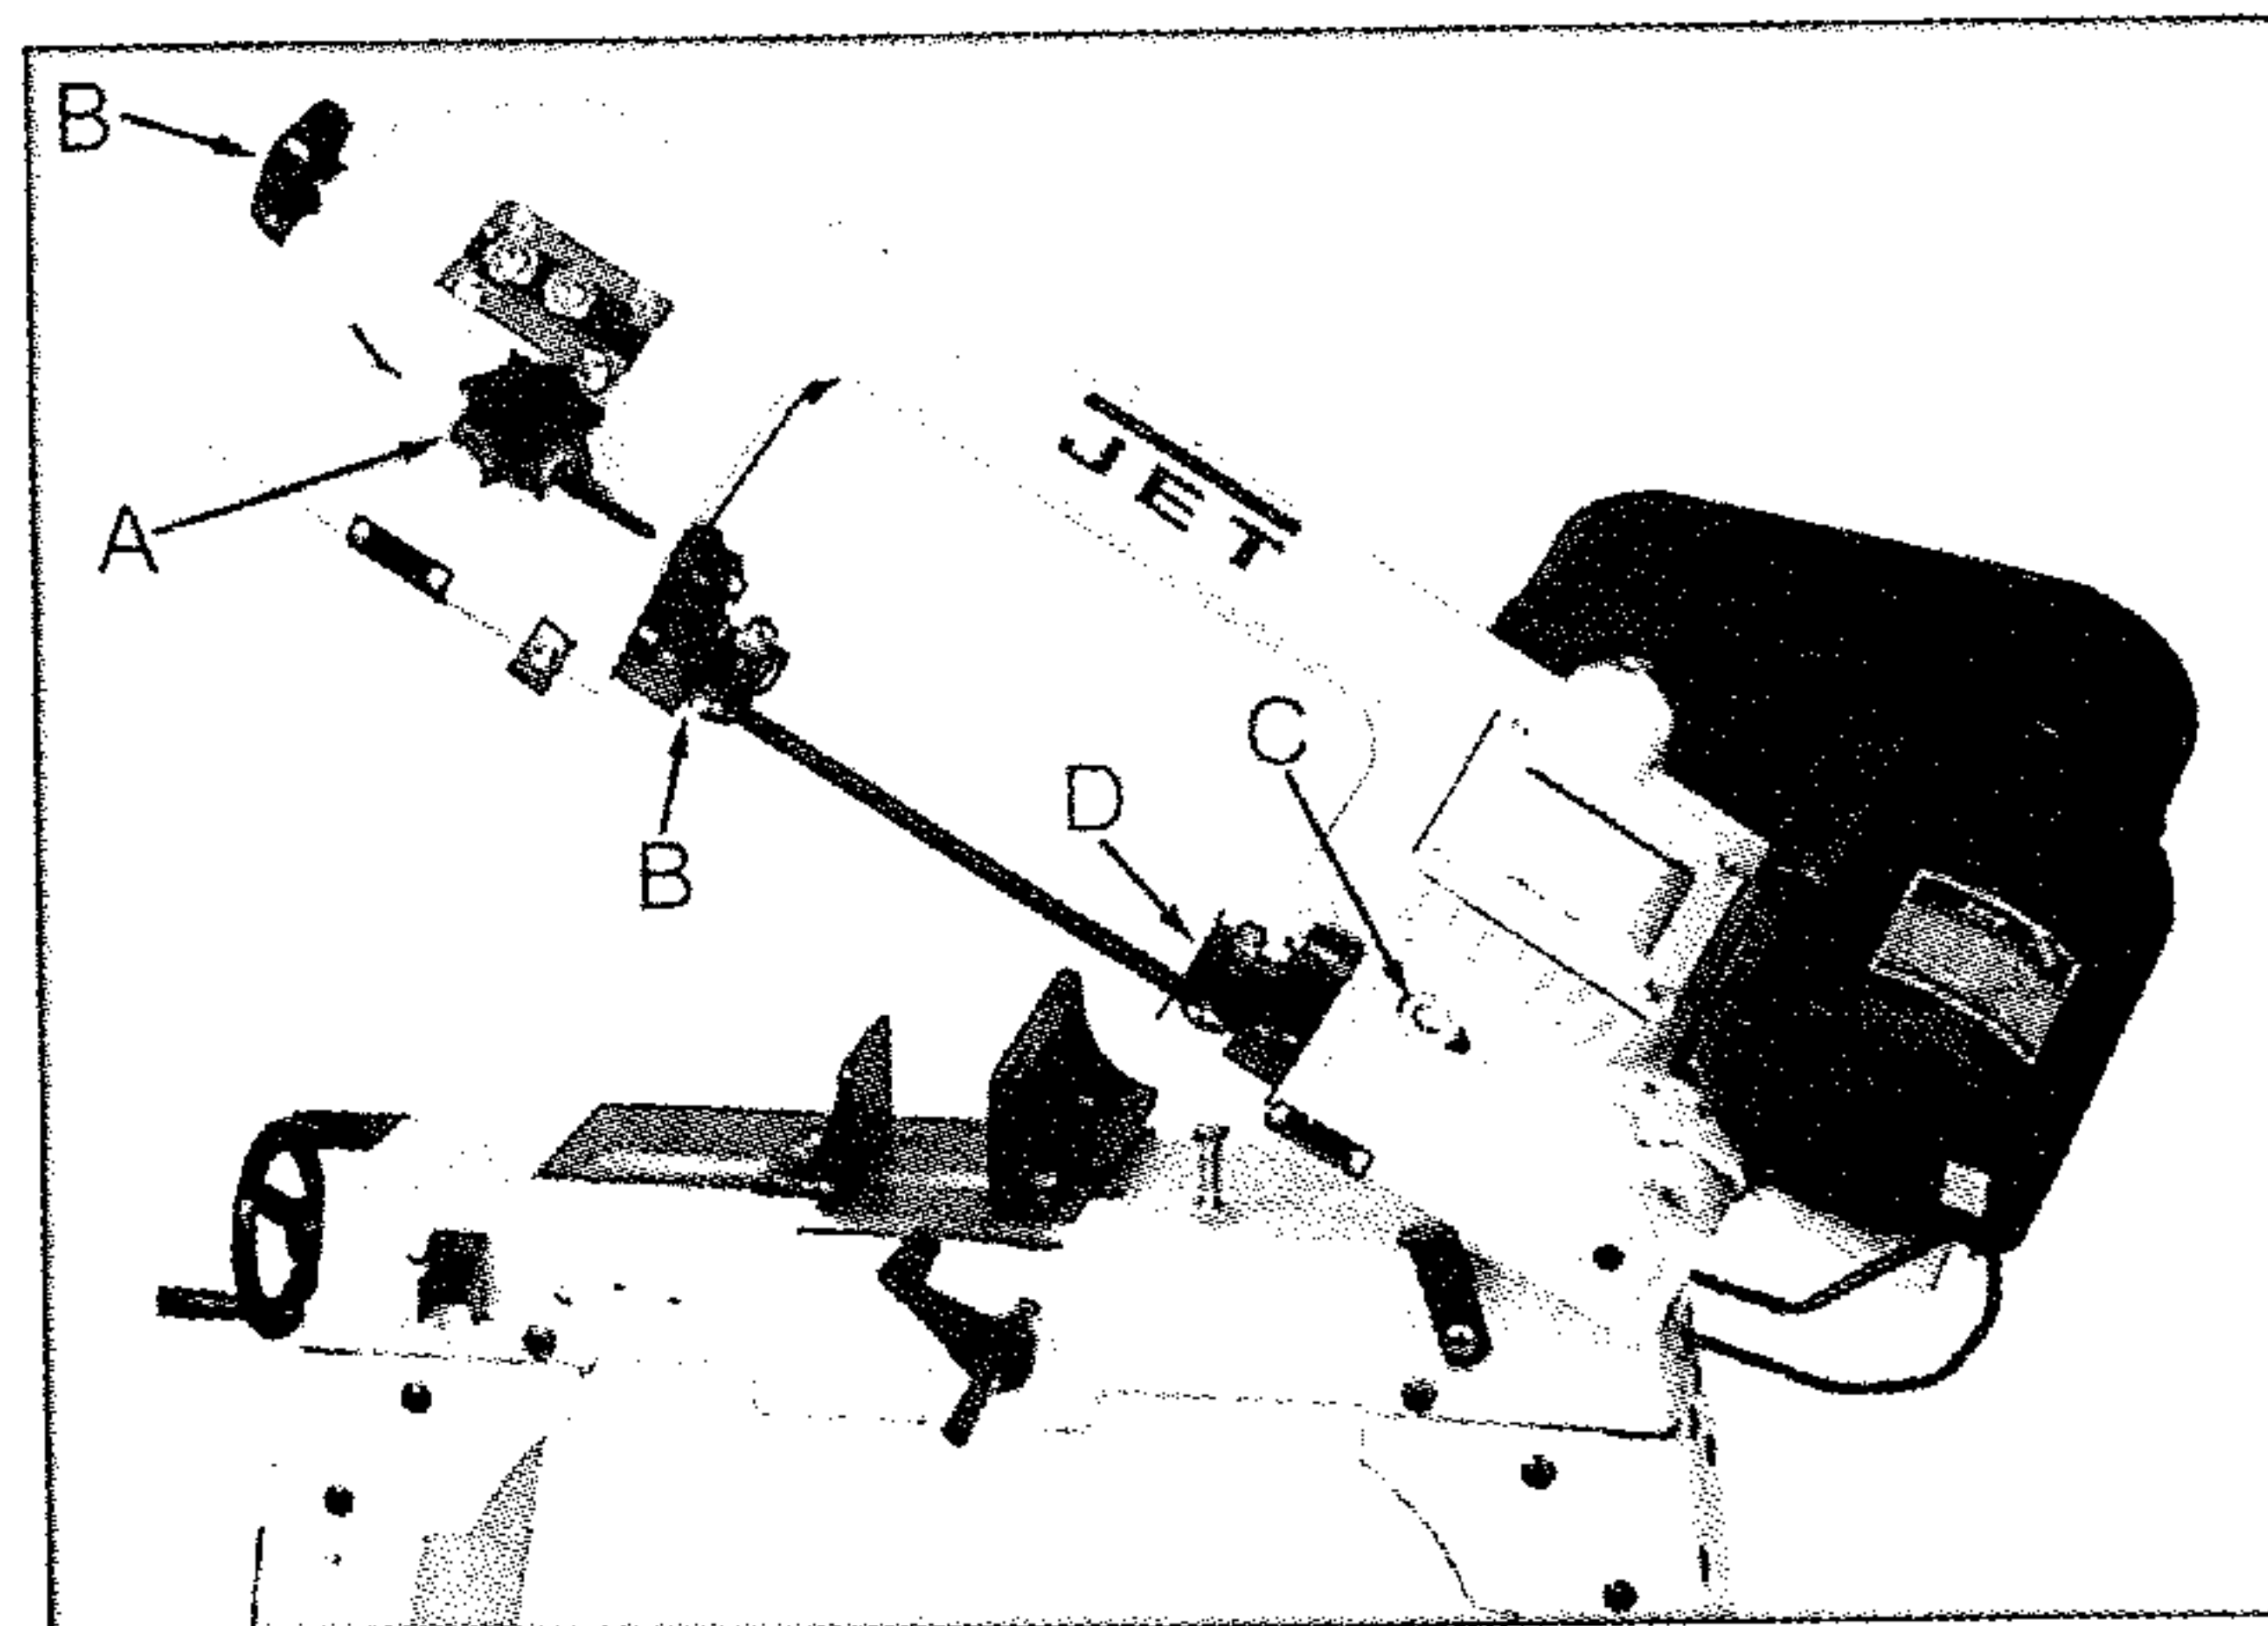

Fig. 12
4. Depress blade. Finger pressure should cause approximately .004" deflection. Turn blade tension knob (B, Fig. 12) until the proper tension is achieved. Re-position guides for cutting material.
2. Loosen knob (A, Fig. 12) and slide blade guide assembly (B, Fig. 12), as close as possible without interference to the material being cut. Tighten knob.
3. Loosen bolt (C, Fig. 12) and slide blade guide assembly (D, Fig. 12), as close as possible without interference to the material being cut. Tighten bolt
3. If the blade is next to the wheel flange, loosen the blade guide assembly lock knob and hex head bolt (A & C, Fig. 12) and slide
5. Release tension on the blade by turning tensioning knob (B, Fig. 12), and remove the blade.